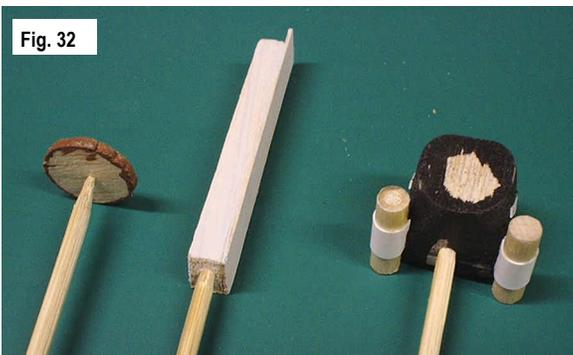

Fig. 32
32. Use sharpened bamboo dowels for painting the headrest parts as shown in Fig. 32.